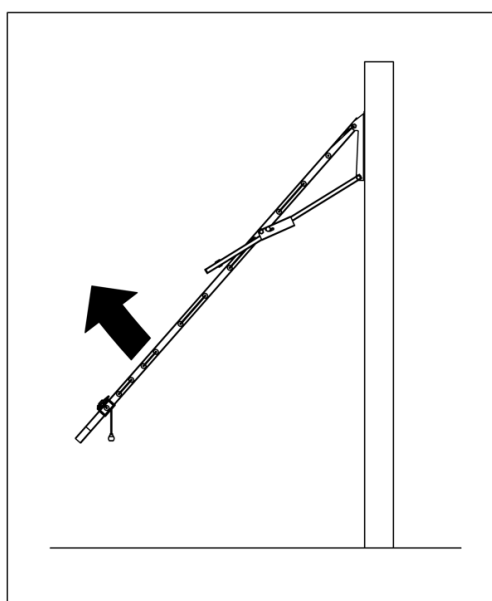

Fig 10. To Extend.
- Using both hands grab the front bar in the centre and lift upward and outward. (Fig.10)